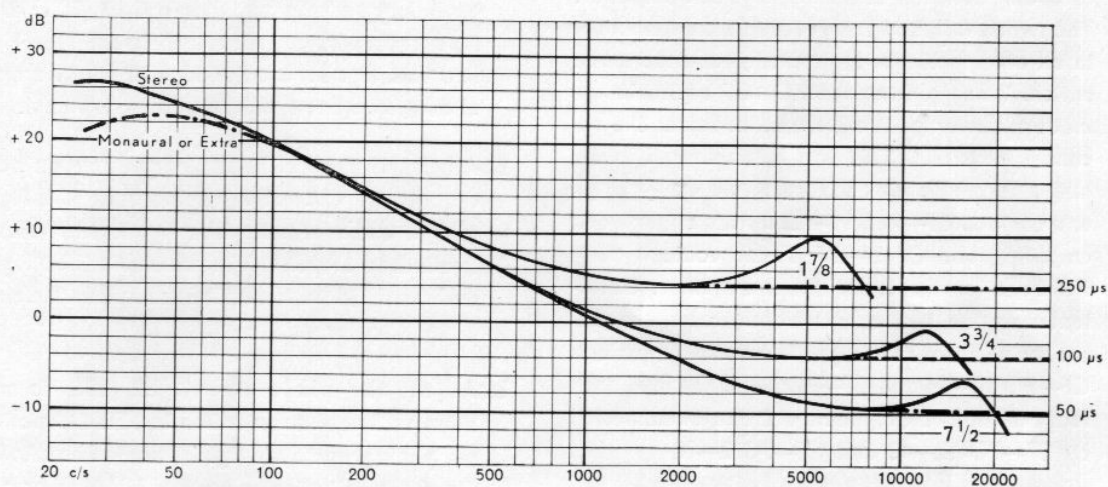

Fig. 4.
1. Adjust the oscillator frequency. A radio receiver tuned to 200 kc/s is used as an indicator. The antenna input terminals must be supplied with a signal of 200 kc/s (Droitwich or a crystal oscillator) and the oscillator coil L3 (22.1) of the tape recorder, see circuit diagram Fig. 4 and foto S.M. Fig. 21, is adjusted so its third harmonic of 66 2/3 kc/s beats with the 200 kc/s signal.
2. The frequency response of the two amplifiers is checked at all three speeds. The response should correspond to the curves in Fig. 4. During these measurements the generator is connected across 1000 ohms in series with the heads and the V.T.V.M. across the corresponding output terminals. The generator voltage is regulated so that the output voltage does not exceed 3 volts at frequencies with max. gain (30—60 c/s). The stereo-monaur. switch is set to STEREO position and the loudspeaker switch (30.7) in the middle position. The gain at 1000 c/s with the volume control at max. is approx. 67.5 dB (2400 times) at 7 ½ ips, approx. 70 dB (3150 times) at 3 ¾ ips and approx. 73.5 dB (4750 times) at 1 ⅞ ips, measured from the head to the output terminals. Also check that the output voltage increases 10—12 dB at 100 c/s when the bass switch is set in position BASS in both amplifiers and at all speeds.